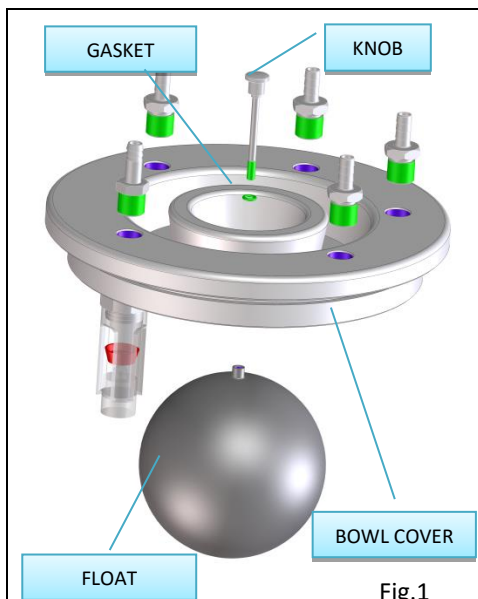

Fig.1
3. Assemble the overflow float (fig. 1) by placing the knob with its gasket into the proper hole at the centre of the vessel cover. Then place the float under the cover while slightly pressing the tapered plug of the knob into the proper float housing.